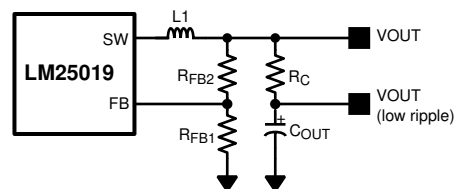

図 7-2. Low Ripple Output Configuration
This regulator regulates the output voltage based on ripple voltage at the feedback input, requiring a minimum amount of ESR for the output capacitor (C_{OUT}). A minimum of 25 mV of ripple voltage at the feedback pin (FB) is required for the LM25019. In cases where the capacitor ESR is too small, additional series resistance can be required (R_C in 図 7-2).
For applications where lower output voltage ripple is required the output can be taken directly from a low ESR output capacitor, as shown in 図 7-2. However, R_C slightly degrades the load regulation.